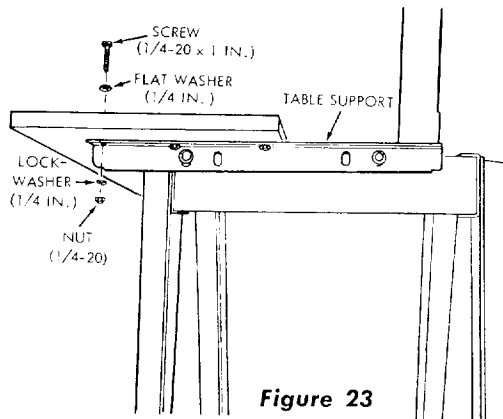

Figure 23
- a. Place the large front table board on the table supports, locating it so that counterbored holes in the table match corresponding holes in the table supports. (See figure 23.)